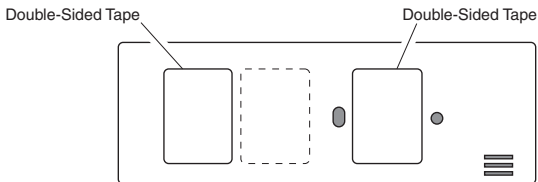

Figure 6
- Peel the protective backing from one side of two pieces of the double-sided tape and apply the tape to the areas on the back of the chime extender as shown in Figure 6.